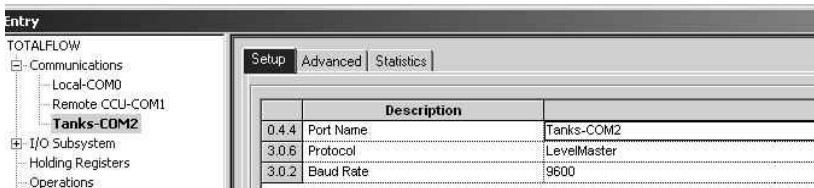

Figure 14. LevelMaster Communication Setup
- 3D** Within the Setup window, set the values for the Protocol (LevelMaster), Baud Rate (9600) and Port Name. When finished, click the Send button (see figure 14).